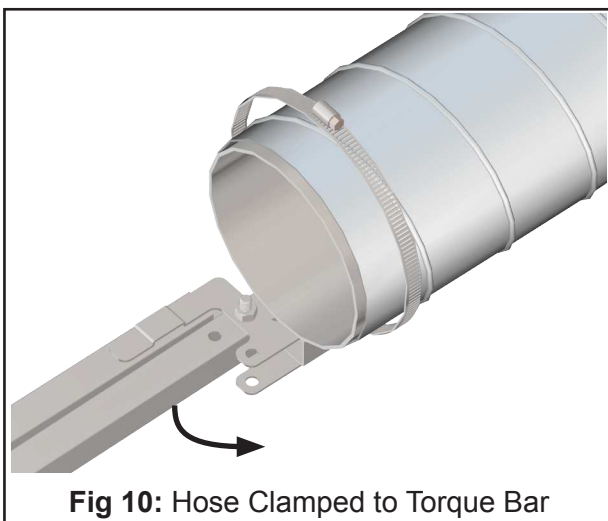

Fig 10: Hose Clamped to Torque Bar
STEP 1: Position the end of the hose so that the clamp is centered over the 6" Hose Intake Tube. Secure the torque bar to the hose by tightening the hose clamp using a 5/16" nut driver. **(See Figure 10)**